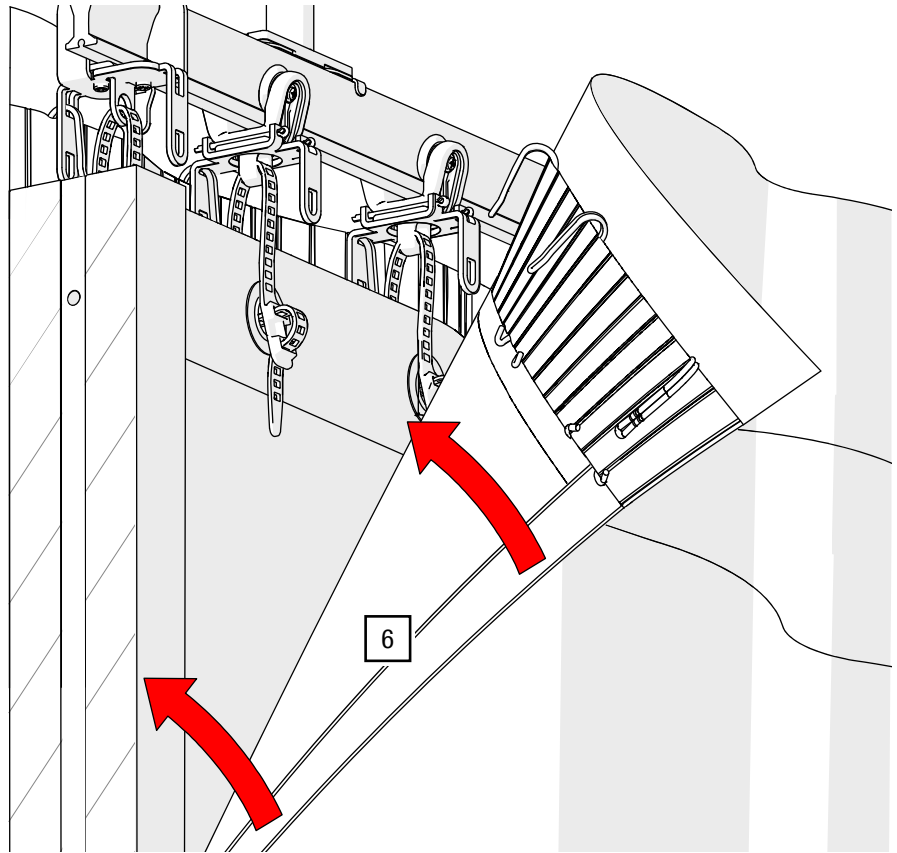

Fig. 120: Curtain – Mount with wall connection strip and variable end stop
6. Mount the outer layers with hook and loop tape to the wall connection strip and hang the curtain hooks in (see Fig. 120).